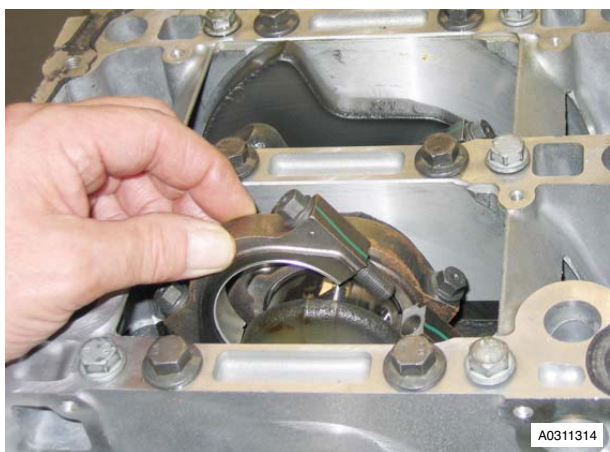

Figure 2
12. Remove and discard bolts (x16) securing bearing caps to connecting rods, remove bearing caps (see Figure 2).